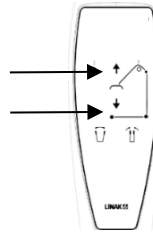

Fig. 1.6G
5. Before first time use and after each service check the control box must be reset push up/down buttons simultaneously on the hand control (Fig 1.6G). See section 3.1 – Using the control box.